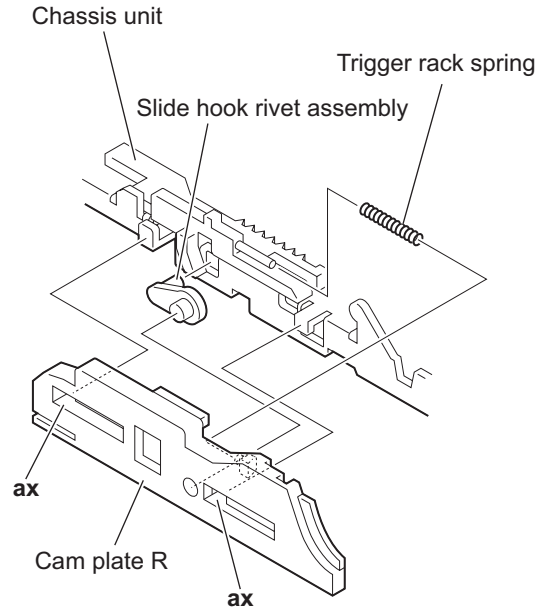

Fig.25
3.1.18 Removing the cam plate R (See Fig.25)
3.1.19 Removing the trigger rack plate (See Figs.25 and 26)
- Remove the slide hook rivet assembly and trigger rack spring from the chassis unit. (See Fig.25.)